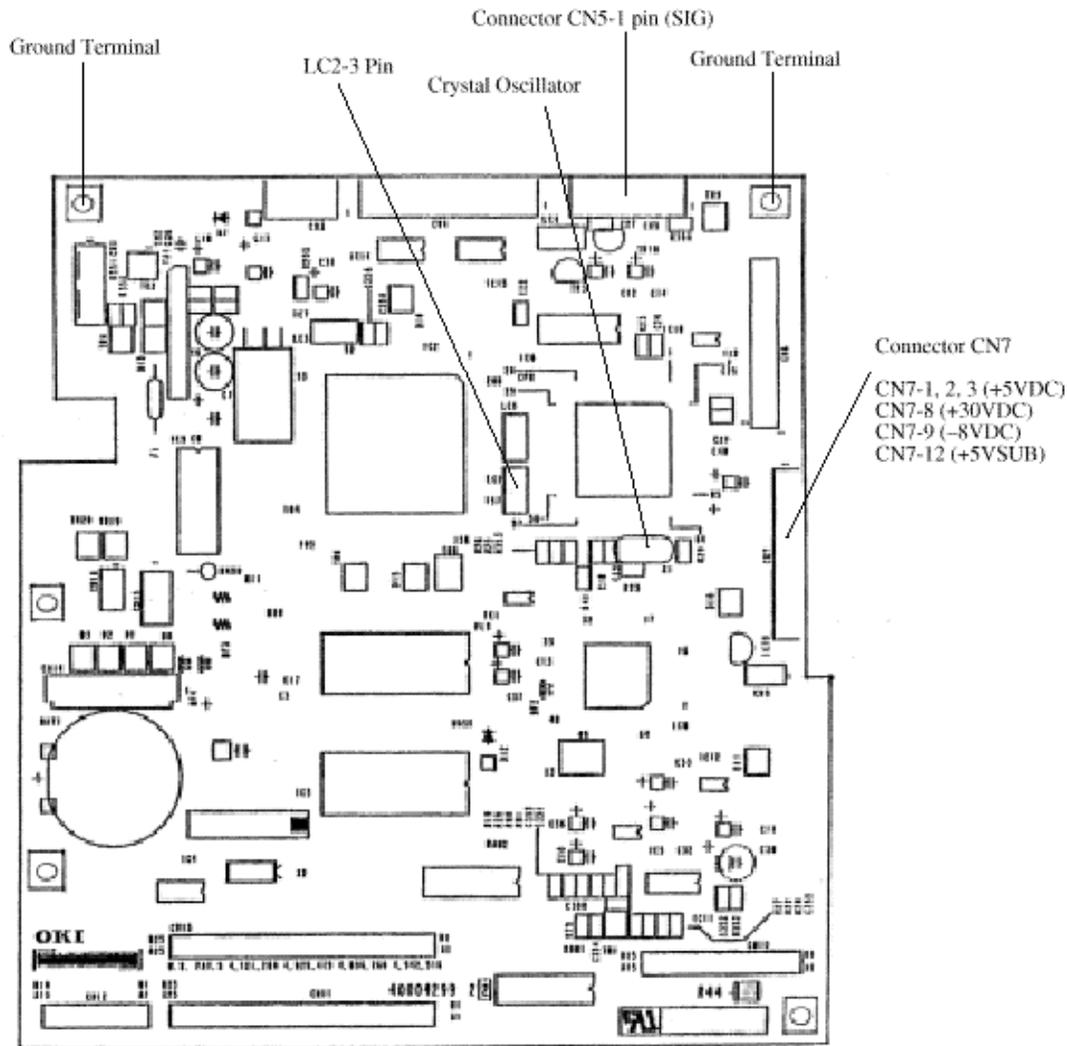

Figure 5.2.1 Measurement Points on R44 Board
- 4 Connect the frequency counter (for clock frequency), digital voltmeter (for power voltage) and Oscilloscope (for SIG signal). See figure 5.2.1 below.